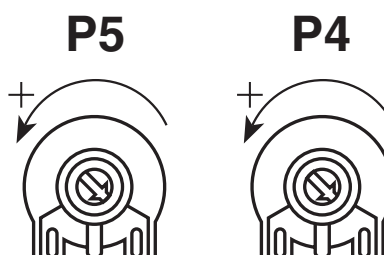

Fig. 33
5.04 Adjusting maximum output for central heating system (fig. 33)